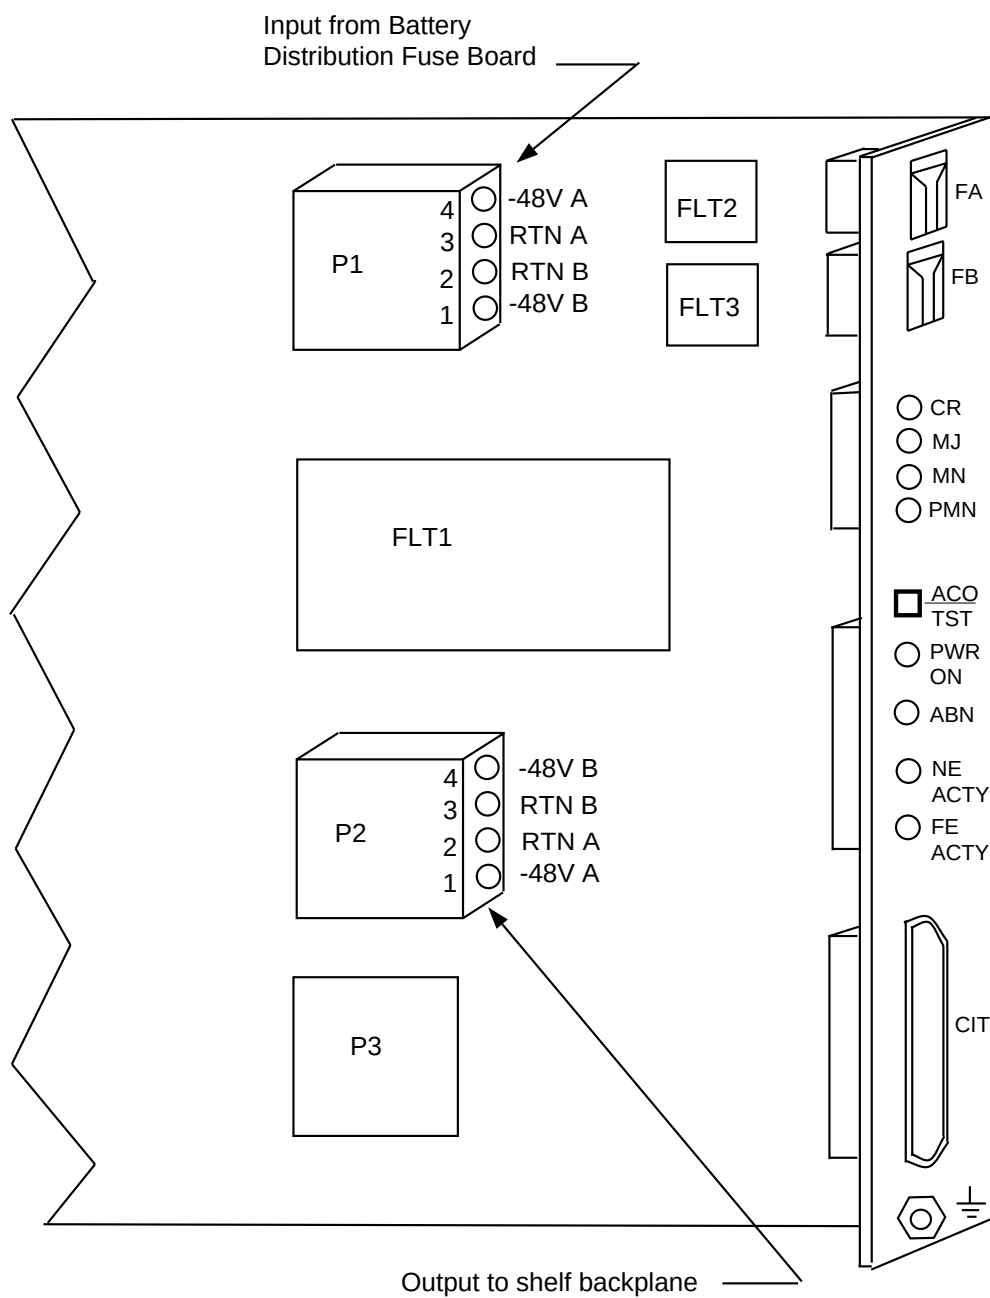

Figure 2. ED-8C724-31, G2 User Panel for ED-8C724-30, G3 DDM-2000 OC-3 Shelf
8. Refer to Figures 1, 2, and 3. Is your shelf an ED-8C724-30, G1 shelf (Figure 1) or an ED-8C724-30, G3 or G4 shelf (Figure 2 or 3)?
14. See Figure 2 or 3.